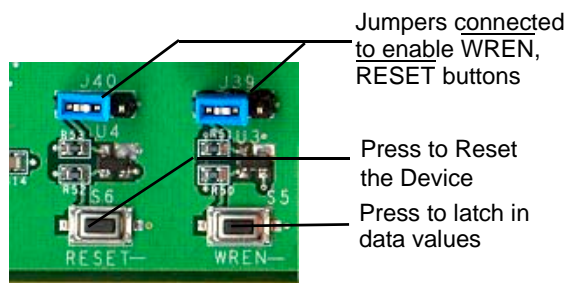

Figure 6-3. Write Enable and Reset Buttons
WREN(J39)	Control Write Enable Header <ul style="list-style-type: none"> • When the jumper is connected across the middle and right pins (see Figure 6-3 on page 17), the push-button signal controls the WREN input to the chip • When the jumper is connected across the middle and left pins, \overline{WREN} is permanently ACTIVE (LOW)
3. Once the data signals are set up, they can be latched into the respective control latches by pressing the $\overline{\text{WREN}}$ (S5) push button (see *Figure 6-3*).
6. Make sure the jumpers for \overline{WREN} (J39) and \overline{RESET} (J40) are configured to enable the push buttons (see Figure 6-3 on page 17).